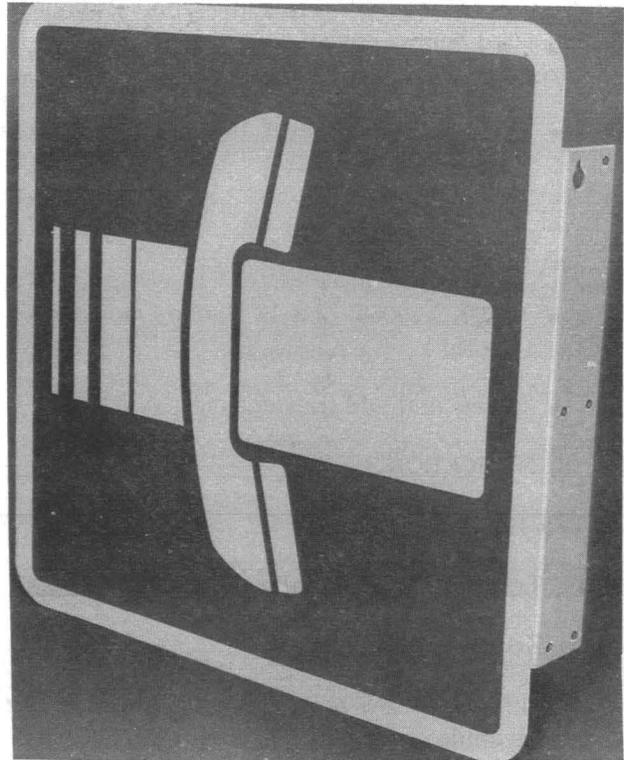

Fig. 4—▶KS-20063, List 9, 10, 11, or 12◀
- Add KS-20063, Lists 9, 10, 11, and 12 Charge-a-Call signs (Fig. 4)
- ♦(e) KS-20063, List 9 (Fig. 4):
- (f) KS-20063, List 10 (Fig. 4):
(g) KS-20063, List 11 (Fig. 4):
(h) KS-20063, List 12 (Fig. 4):